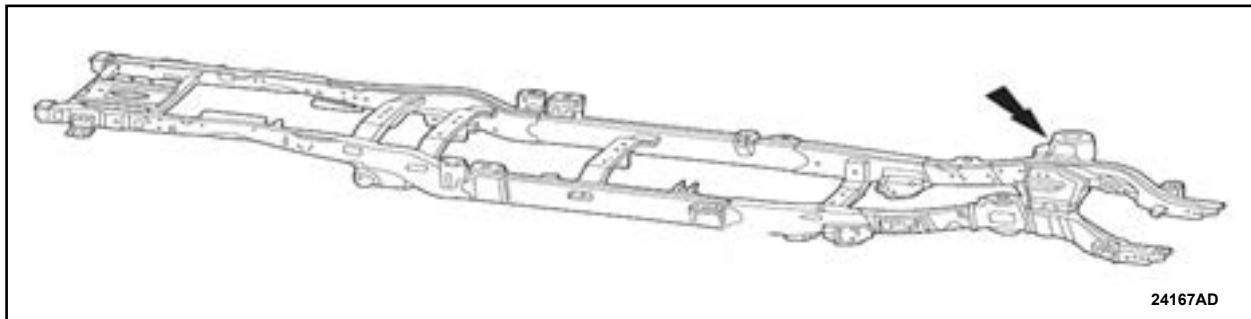

FIGURE 13
1. Using an angle grinder, grind the 3 welds between the ABS bracket and the LH shock tower as shown in Figures 13 and 14.